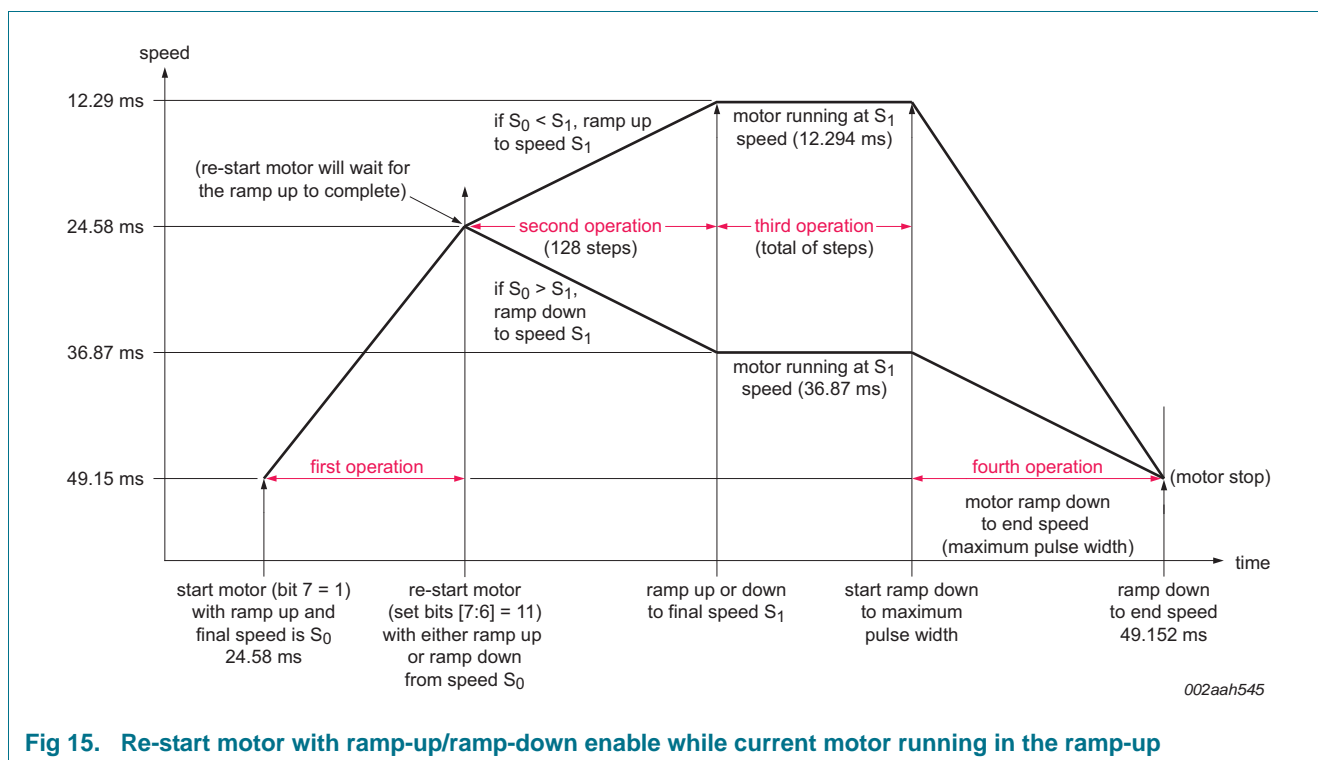

Fig 15. Re-start motor with ramp-up/ramp-down enable while current motor running in the ramp-up
- Set re-start motor bit to '1' while the current motor is running (bit 7 = 1) in the ramp operation, the re-start motor action will wait for the ramp-up or ramp-down to complete, then re-start the new motor operation based on the new motor parameter registers setting as shown in Figure 15.